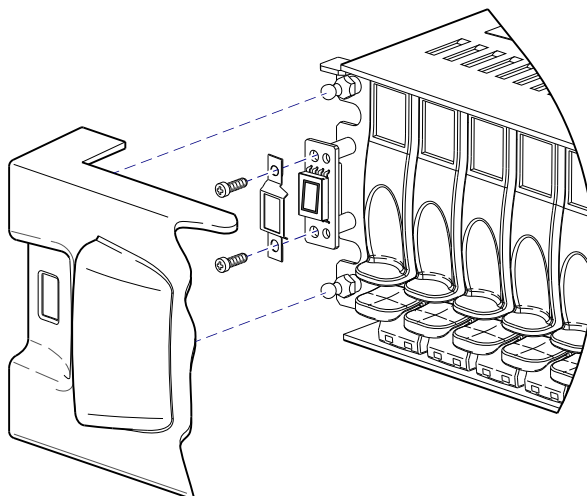
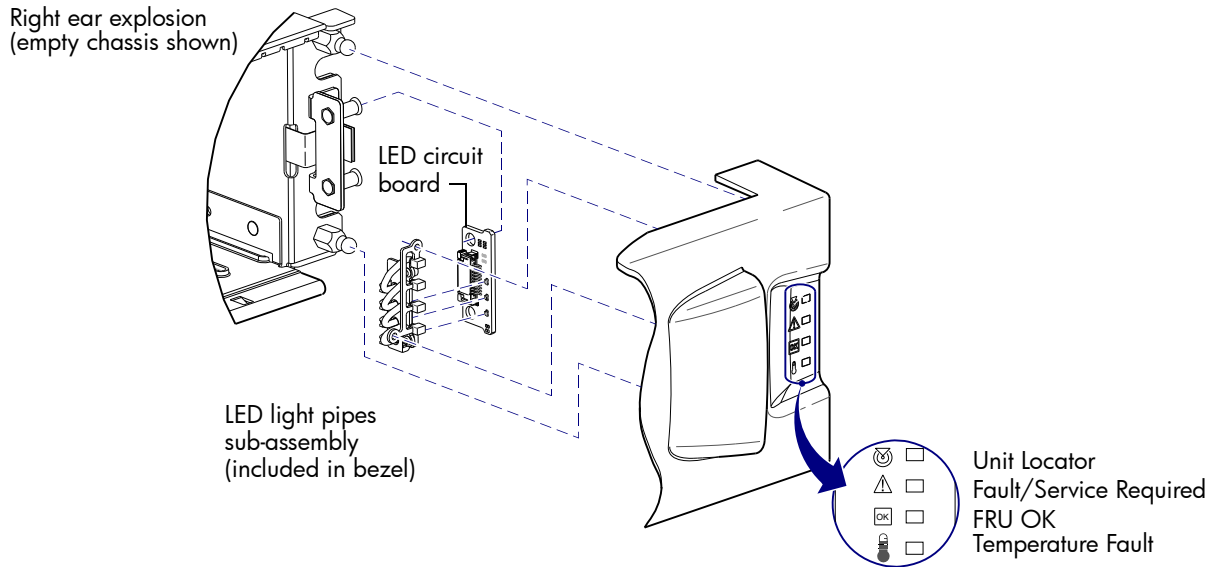
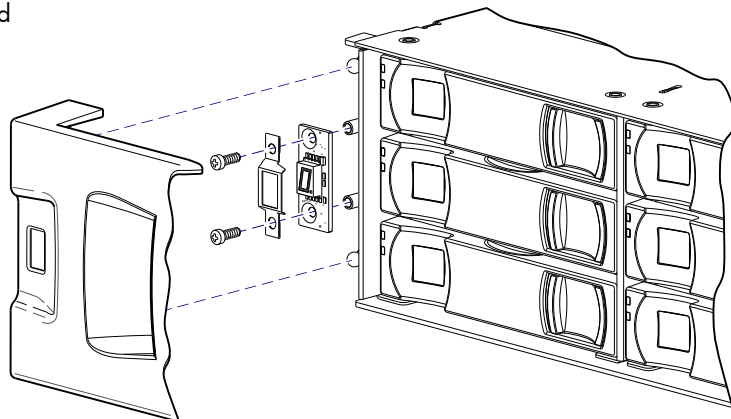
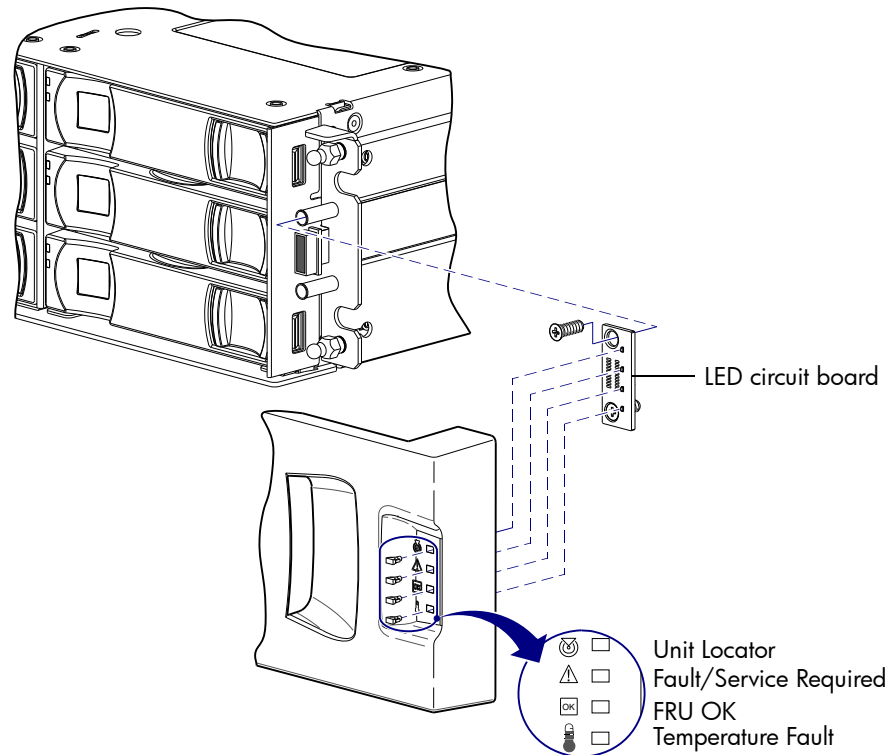

Figure 26 Replacing left ear components — 2U24 models
Figure 27 Replacing right ear components — 2U24 models
Figure 28 Replacing left ear components — 2U12 models
Figure 29 Replacing right ear components — 2U12 models
Figure 26 shows the left ear flange of a 2U24 model with the LED circuit board installed. The enclosure bezel is removed to reveal the left ear and SFF disks. See Attaching and removing the enclosure bezel on page 21 (Figure 11) for bezel attachment and removal details.
Figure 27 shows the right ear flange of a 2U24 model. The enclosure bezel is removed to reveal the right ear. The example uses an empty 2U24 chassis. The LED circuit board is shown exploded from its installed position, and aligned with the light pipe sub-assembly, which is integral to the enclosure bezel.
Figure 28 shows the left ear flange of a 2U12 model with the LED circuit board installed. The enclosure bezel is removed to reveal the left ear and LFF disks. See Attaching and removing the enclosure bezel on page 21 (Figure 12) for bezel attachment and removal details.
Figure 29 on page 45 shows the right ear flange of a 2U12 model. The enclosure bezel is removed to reveal the right ear and LFF disks. The LED circuit board is shown exploded from its installed position, and aligned with the light pipes, which are integral to the enclosure bezel. Individual light pipes are shown exploded from the front of the enclosure bezel.
See Figure 26 on page 43 (2U24 chassis), Figure 27 on page 44 (2U24 chassis), Figure 28 on page 44 (2U12 chassis), and Figure 29 (2U12 chassis) when removing the enclosure bezels.
- This step applies to left ear kit replacement only: see Figure 26 on page 43 for 2U24 enclosures.
- This step applies to left ear kit replacement only: see Figure 28 on page 44 for 2U12 enclosures.
Figure 26 on page 43 shows the left ear circuit board and LEDs of 2U24 enclosures.
Figure 27 on page 44 shows the right ear circuit board and LEDs of 2U24 enclosures.
Figure 28 on page 44 shows the left ear circuit board and LEDs of 2U12 enclosures.
Figure 29 on page 45 shows the right ear circuit board and LEDs of 2U12 enclosures.
- See Figure 26 on page 43 for left ear components on 2U24 enclosures.
- See Figure 27 on page 44 for right ear components on 2U24 enclosures.
- See Figure 28 on page 44 for left ear components on 2U12 enclosures.
- See Figure 29 on page 45 for right ear components on 2U12 enclosures.
- This step applies to left ears only: see Figure 26 on page 43 for 2U24 enclosures.
- This step applies to left ears only: see Figure 28 on page 44 for 2U12 enclosures.